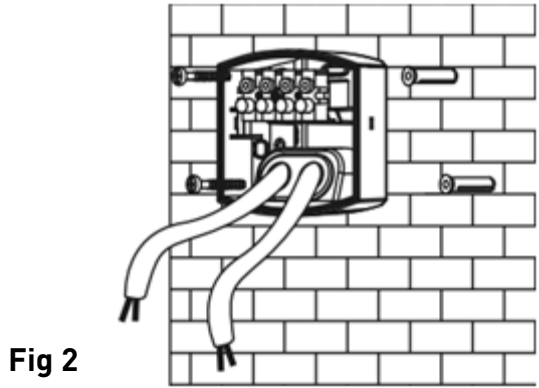

Fig 2
- Using the base as a template, secure the base to the desired surface using the fixings supplied ensuring not to infringe with any gas/water pipes or electrical cables (see Fig 2)
- For ceiling mounting follow instructions for horizontal/vertical mounting (see Fig 2) and angle head accordingly